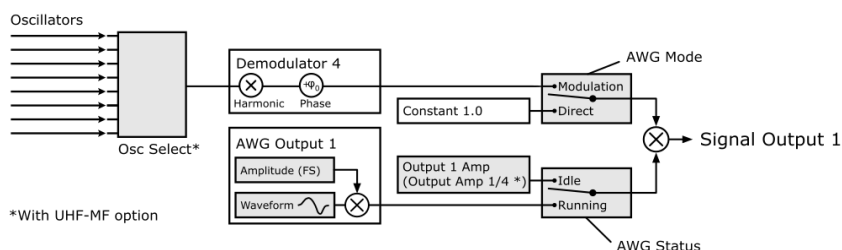

Figure 5.49: Amplitude modulation block diagram for AWG Output 1
The generation of the modulated signal depends on the settings made in the Lock-in tab. Figure 5.49 shows how the signals are routed internally on their way from the oscillators and the AWG to the Signal Outputs. There are two switches in the diagram. The upper switch is related to the AWG Mode selection. In Modulation mode, the signal coming from the AWG unit 1 (2) is multiplied with the oscillator signal of demodulator 4 (8). The phase and harmonic of the oscillator signal can be adjusted in the Lock-in tab. In Direct mode, the AWG signal is multiplied with a constant 1.0, in other words, it remains unchanged. The lower switch is related to the running state of the AWG, i.e., the **Single** buttons. When the AWG is idle, the Output Amplitude setting from the Lock-in tab takes the place of the AWG signal. This is the standard configuration for lock-in measurements. It is furthermore useful for defining the voltage appearing on the Signal Output when the AWG is off. The UHF-MF Multi-frequency option provides additional oscillators as well as an Oscillator Select switch matrix at the input of the demodulators, enabling the use of up to 8 independent frequencies for modulation. The Register values may be used as integer variables inside a sequence program, for instance to vary a delay between pulses manually or with the Sweeper Tab.